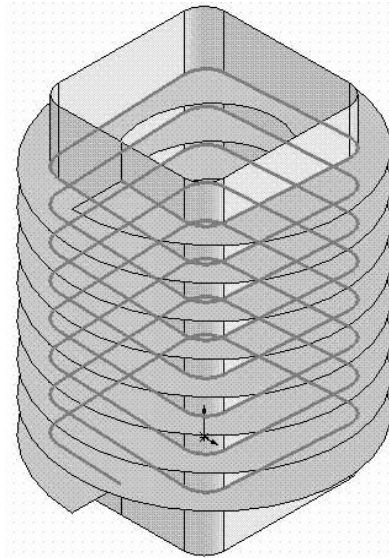

Figure 8 - Selections for creating Composite Curve
21. Next, you need to change the split line into a composite curve. To do so, select Insert > Curve > Composite from the menu bar. The Composite Curve Property Manager is invoked. One by one, select all the split lines from the drawing area to make them composite, refer to Figure 8.